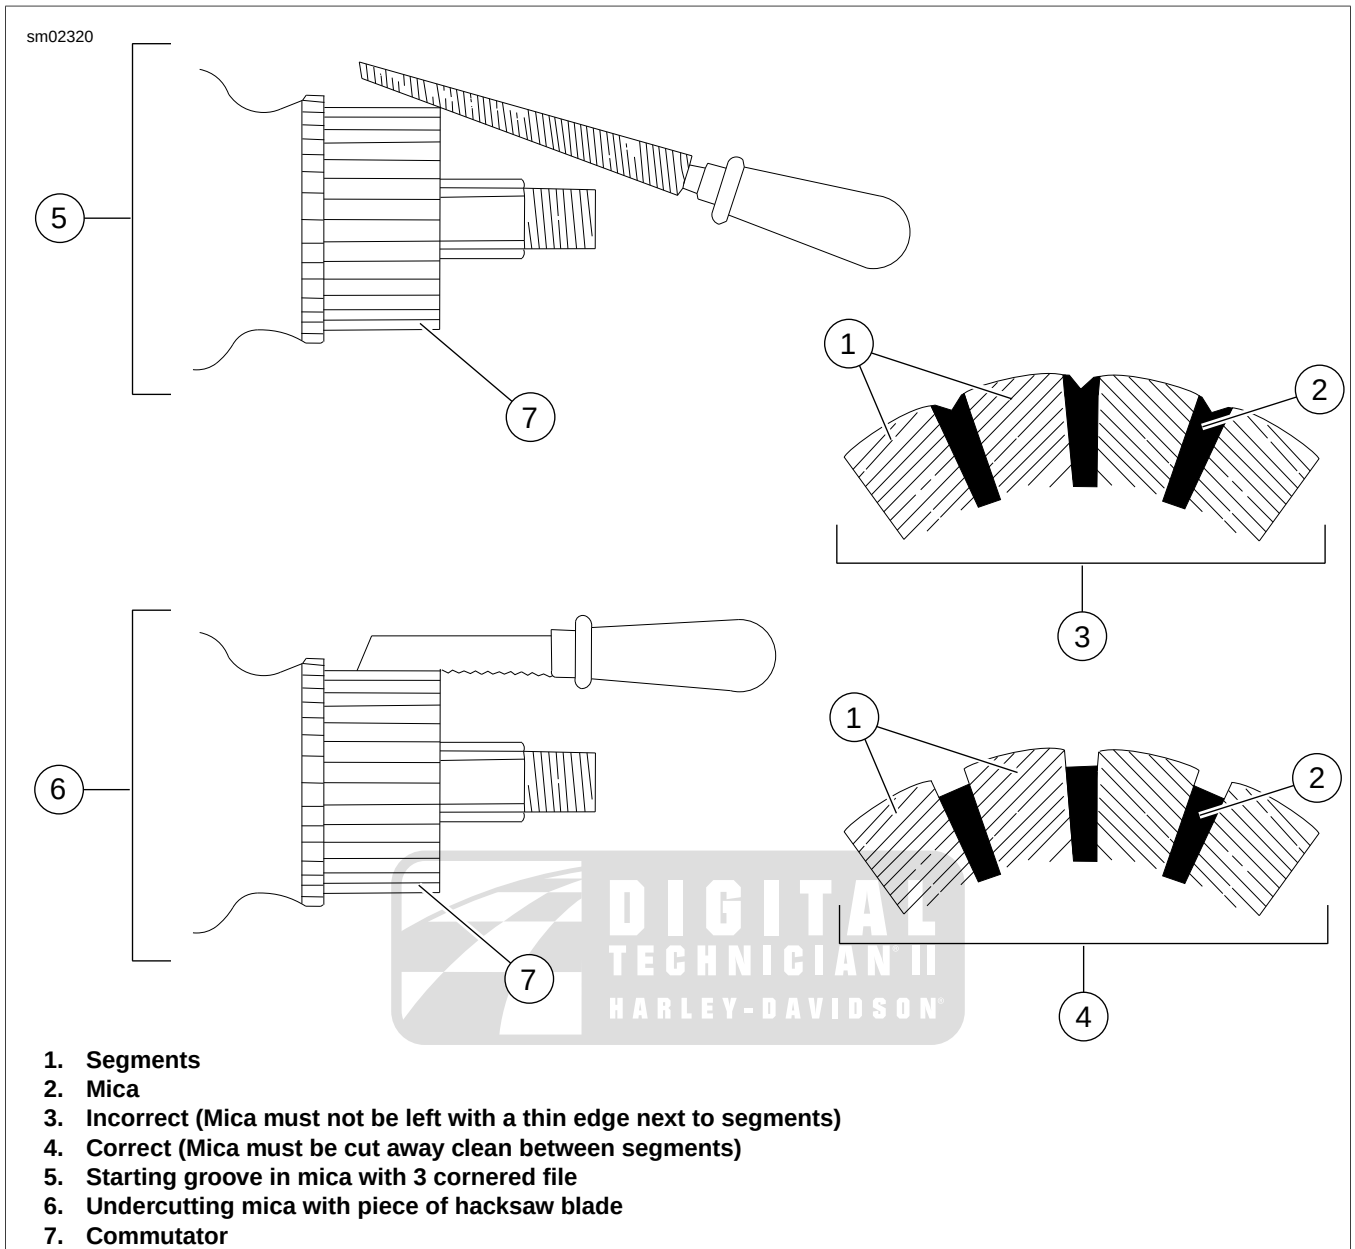

Figure 1-11. Undercutting Mica Separators
- See Figure 1-11. If an undercutting machine is not available, undercutting can be done satisfactorily using a thin hacksaw blade. After undercutting, lightly sand the armature with crocus cloth to remove any burrs.